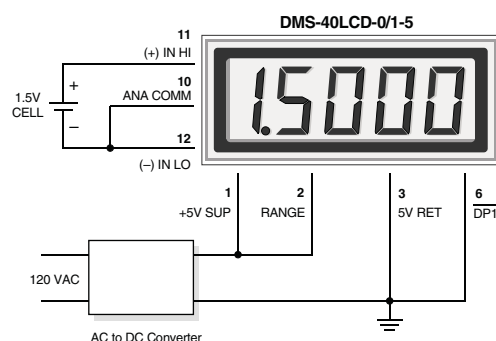
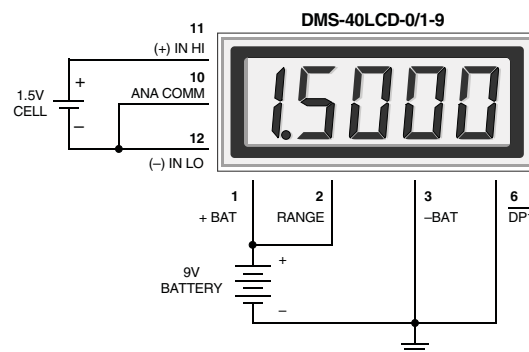

Figure 5. Floating Input Measurements (5V-Powered Models)
Figure 6. Floating Input Measurements (9V-Powered Models)
- 4. Floating Signal Source Measurements:** Floating signals can be measured using the circuits shown in Figures 5 and 6. Figure 5 uses a 5V-powered meter. Figure 6 uses a 9V-powered meter. Both figures show a DMS-40LCD-0/1 with pin 2 tied to pin 1 yielding a ±2V input range. Connecting pin 10 (ANALOG COMMON) to (-) INPUT LO (pin 12) provides the reference point for the meter's input.